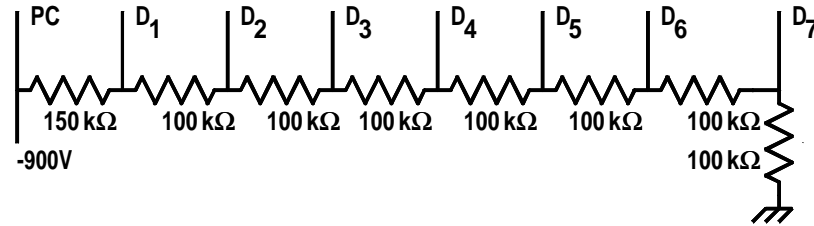

Figure 6.1: Problem 6.3.
- 6.3 The circuit in Figure 6.1 shows the resistor chain which is used to obtain the voltages which are applied to the dynodes in a photomultiplier tube. Calculate the voltages at each of the dynodes D_1 to D_7 and also calculate the minimum power rating for the resistors in the circuit. The resistor between the photocathode, PC , and D_1 is $150\text{ k}\Omega$ and the remainder are all $100\text{ k}\Omega$.